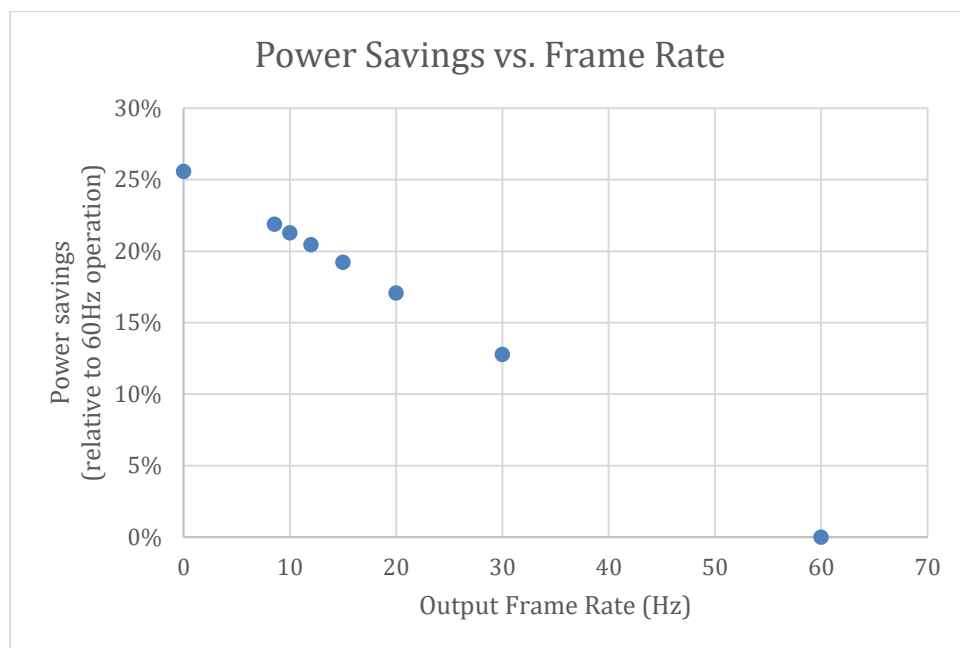

Figure 71: Power Savings as a function of frame rate
- Whether the frame skip function is enabled; disabled for measurements below (see Figure 71)